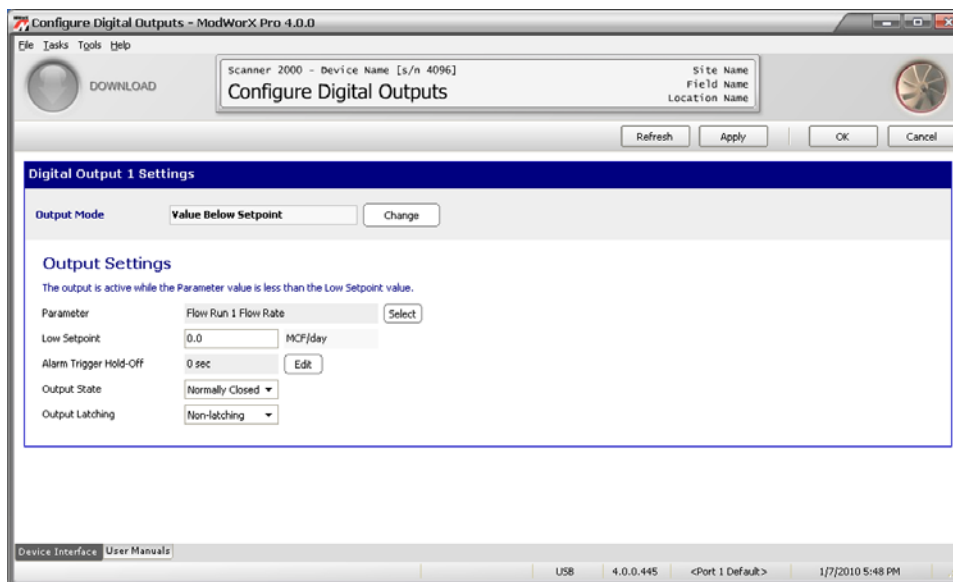

Figure 7.15
- Click **OK** to save the setting and return to the Configure Digital Outputs screen (Figure 7.15). In this example, the alarm output is configured to activate when the value is below the designated threshold.
7. Change the output state, if necessary (Figure 7.15, page 98). Options are Normally Open and Normally Closed.
8. Change the Output Latching setting, if necessary (Figure 7.15, page 98). Options are Non-latching and Latching. If the alarm is latched, it will remain active once it is activated, even if the assigned parameter value returns to a normal range. The alarm must be manually cleared by the operator. If the alarm is non-latching, the alarm will clear when the assigned parameter value returns to a normal range without intervention from the operator.